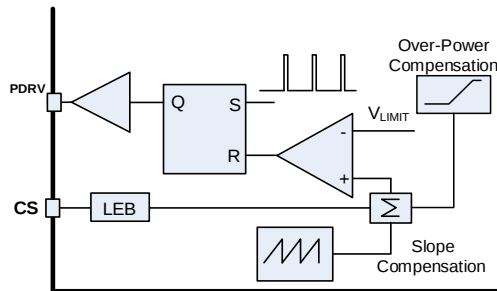

Figure 15: Peak-Current-Comparator Circuit Logic
Figure 15 shows the peak current comparator logic.
generated by the slope compensation block reach V_{PEAK} , the comparator goes high to reset the RS flip-flop, and DRV is pulled down to turn off the MOSFET (see Figure 15). The maximum current limit is $V_{IPK-MAX}$. The slope compensator is S_{RAMP} , and at low line the over-power compensation is zero. Given a certain margin, V_{PEAK} is equal to $0.95 \times V_{IPK-MAX}$ under full load. The voltage on the current-sense resistor can be calculated with Equation (11):